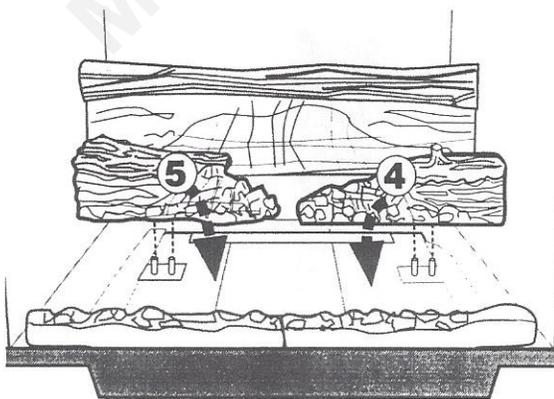

Figure 22. Install the back, left, and right logs.
4. Install the Right and Left Middle Logs (4 & 5) by engaging the pockets in the bottoms with the pins on the burner brackets. Fig. 22.